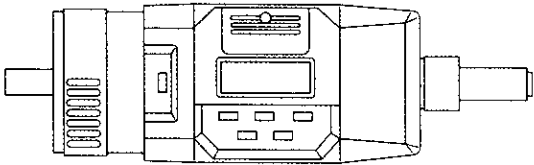

Fig. 14
- As to operation of Digimatic Head (Digital micrometer head), please refer to the manual supplied with the instruction. (Fig. 14)